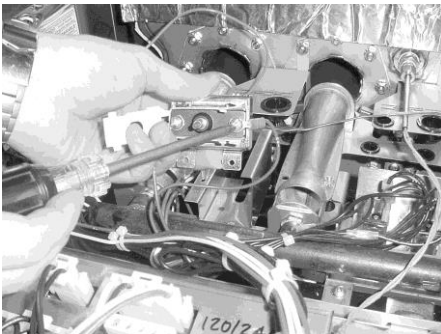

Figure 2-5
5. Remove the two electrical wires from the high temperature limit control. Figure 2-5.